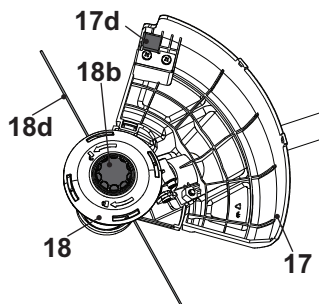

Fig. 27
1. Tap the bumper (18b) on solid ground and the trimmer head (18) will release trimming lines (18d).
2. Excess line will be cut by the knife (17d) (Fig. 27).